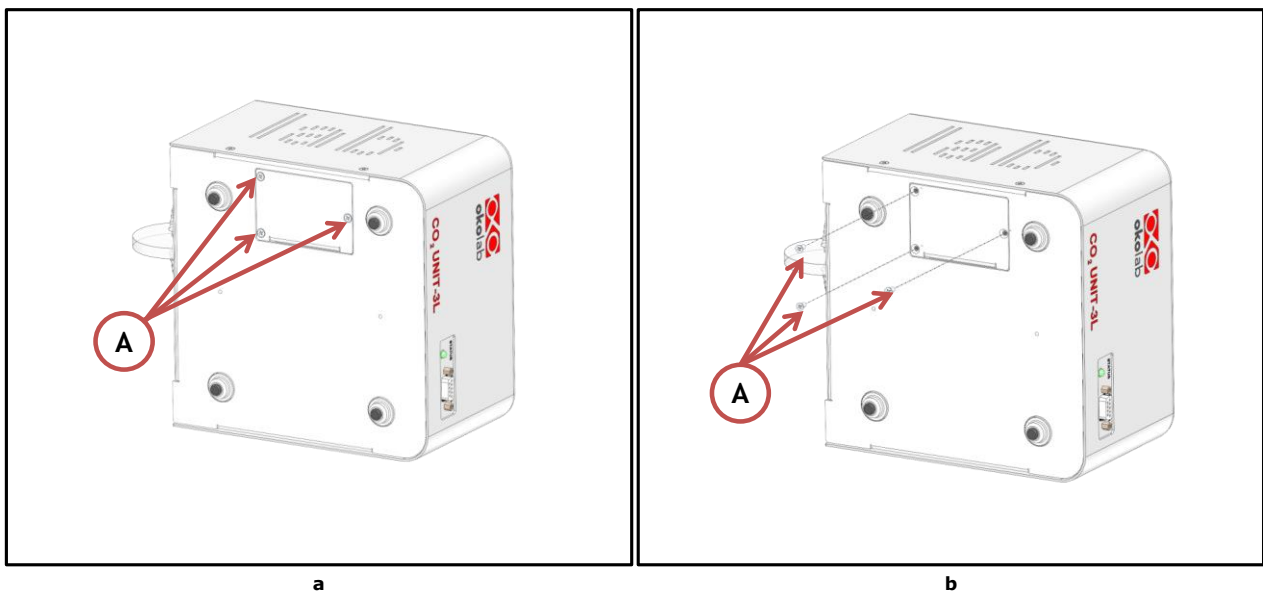

Figure 55. CO2-UNIT-3L Pump disassembly.
- 1 Use a screwdriver for loosening the socket head cap screws (M3x6, A in Figure 55, a and b) on CO2-UNIT-3L bottom panel.